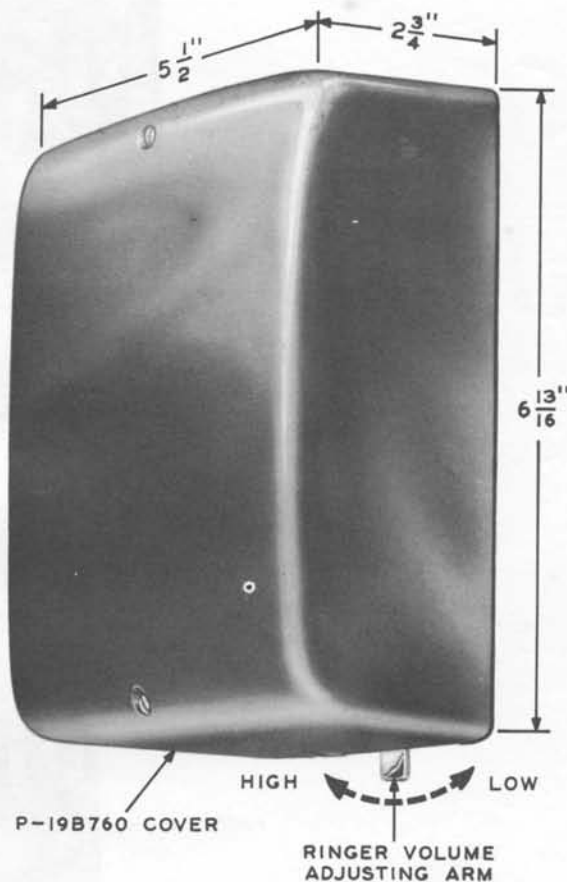

Fig. 1—685-, 686-, and 687-type Subscriber Sets—Exterior View
2.01 Figs. 1 through 6 illustrate the 685A, 686A, 687A, and 687B subscriber sets.